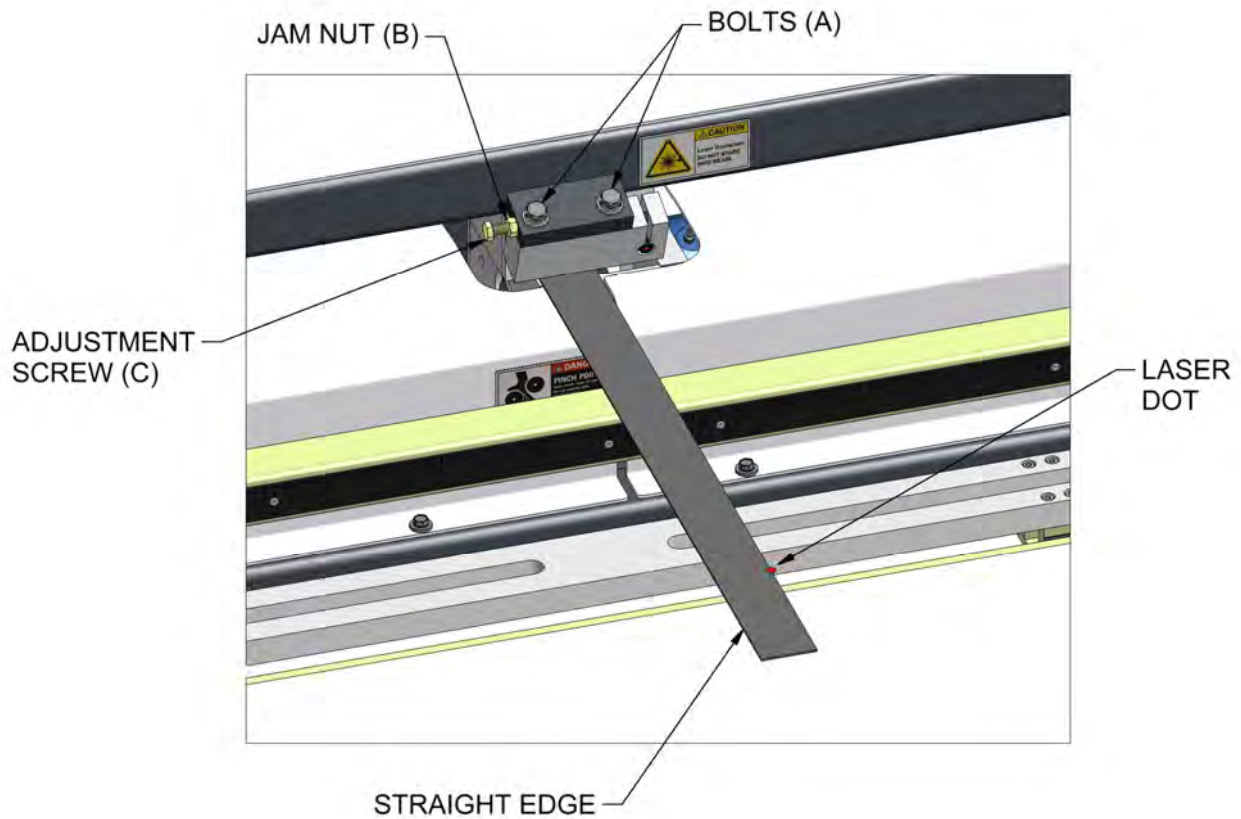

Fig. 9-2. Adjusting The Laser
SOLUTION: Adjust the laser by following the steps below. Refer to **Fig. 9-2**.
2.2 Hold a two-foot long straight edge against the lower slitter knife as shown in **Fig. 9-2**. Make sure that the straight edge is flush against the knife, with no gaps between them.
2.3 The laser dot should be centered on the edge of the straight edge, see **Fig. 9-2**. If it isn't, then loosen the two bolts (A) and the jam nut (B). While holding the aluminum laser mount block against the adjustment screw (C), turn the adjustment screw until the laser dot is lined up with the edge of the straight edge. Retighten the bolts (A) and the jam nut (B).